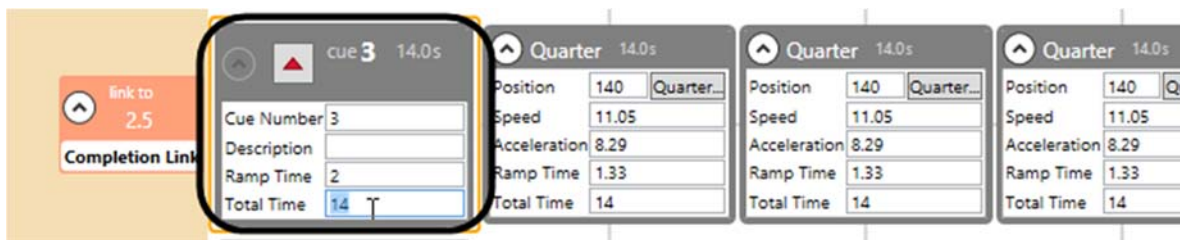

Figure 227
2. Type in the new **Total Time** value you wish to use and press the **TAB** key (Figure 227).